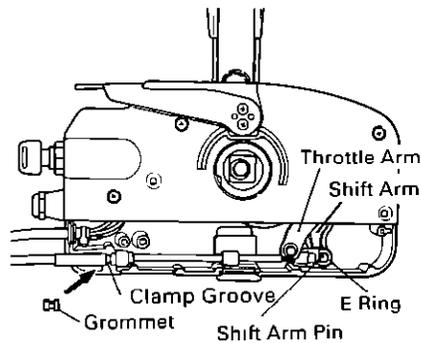

Fig 6
Place the Terminal Eye on the pin of the Shift Arm and attach it with the E-ring. (Fig. 6)
- ④ Insert the grommet into the clamp groove of the Remote Control Box. (Fig. 6)